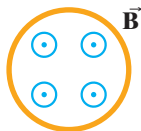

FIGURE 21–54
7. A long straight wire carries a current I as shown in Fig. 21–55. A small loop of wire rests in the plane of the page. Which of the following will *not* induce a current in the loop?